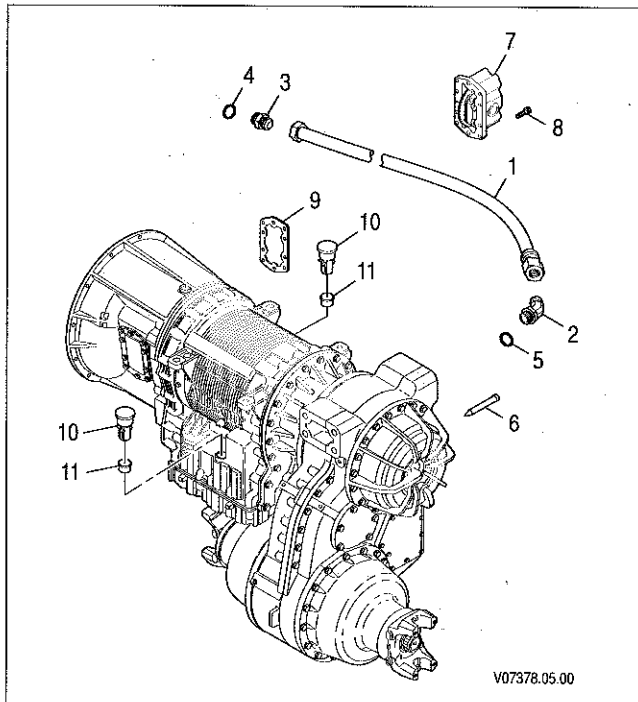

Figure 4-4. 3700 SP and MD 3070PT Scavenge Pump Removal
### g. Removal of Transfer Case Module—3700 SP or MD 3070PT (Figures 4-4 and 4-5)
1. Remove hose 1 (Figure 4-4), fittings 2 and 3, O-rings 4 and 5, and screen 6. Remove scavenge pump 7 by removing nine bolts 8. Remove gasket 9.